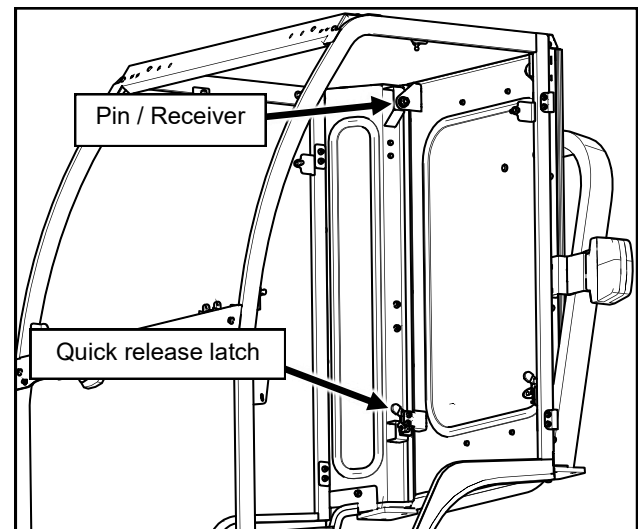

Fig. 10.2 (Rear Leg / Rear Panel Engagement)
10.2 Lift rear panel and slide the upper pins into the receivers on the rear legs. Engage the lower quick release latches at this time. See Fig. 10.2.